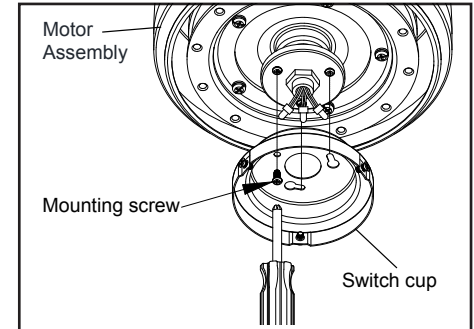

Figure 13
1. Remove one screw and loosen but do not remove two screws from keyhole slots on the motor assembly. (Figure 13)